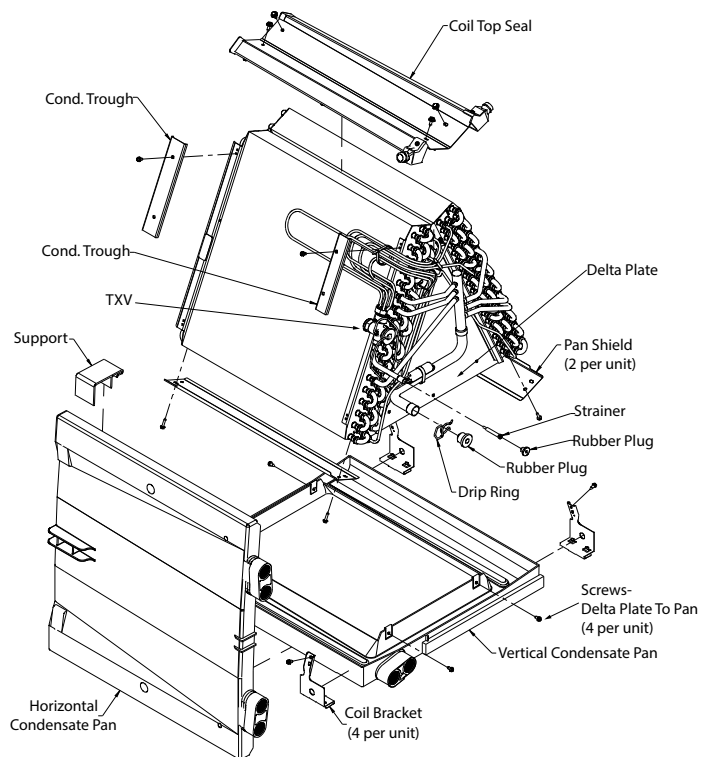

Fig. 29 – A-Coil Component Location
8. Remove horizontal condensate drain pan from coil (if present) and condensate pan assembly (Fig. 29).
9. Remove 4 coil brackets if present (Fig. 29).
10. Remove screws at delta plates and remove coil from vertical condensate drain pan (Fig. 29).
11. Horizontal Applications Only—Remove drain connections and J-shaped tube from original coil, and install them in same position on new coil (Fig. 29).
12. Place coil assembly in plastic condensate pan and secure with 4 screws through delta plate (Fig. 29).
13. Horizontal and Upflow Applications Only—Attach 4 coil brackets to coil and pan assembly (Fig. 29).
17. Horizontal Applications Only—Reinstall horizontal pan clip and secure with 1 screw (Fig. 29).